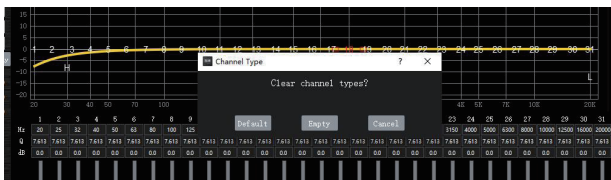

Figure 3.3.4
The third step, after the user has configured all of the output signal path, click on the right side of Figure 3.3.4 "Lock Output Configuration" to lock the configured output channel speaker sound field position. So that users and then in the bottom of each channel label, click on the type of drop-down menu box, type options will not pop up. the output delay adjustment, is set in the delay space area to the left of the illustrated adjustment, as follows (Figure 3.3.6), click on the value of the input box next to the corresponding speaker can be entered after the delay value corresponding units.
Straight balanced: the button shown in Figure 3.3.4, the current channel as long as there is an equalizer in the open state, this button will appear highlighted in green state, indicating that you can click this button to make all the equalizer current channel change to not start moving (directly). Click the button that will return to "restore the balance." Then click on "restore the balance" button will allow all current equalizer channel back to the last activated state.
**Reset balanced:** the button shown in Figure 3.3.4, click this button to make all current channel equalizer parameters return to the initial state: uniform distribution of frequency, Q value is 1.2, a gain of 0dB.